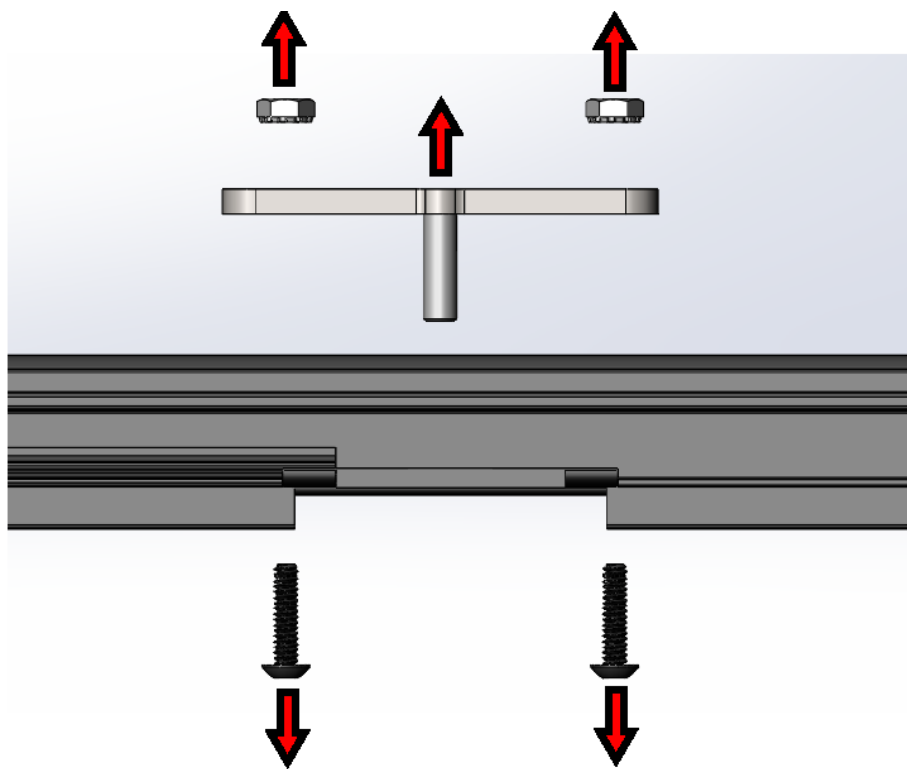

Figure 5: Pin Strike Fastener Removal
- c. The pin strikes can be removed as shown in Figure 5. (Glass removed for clarity).